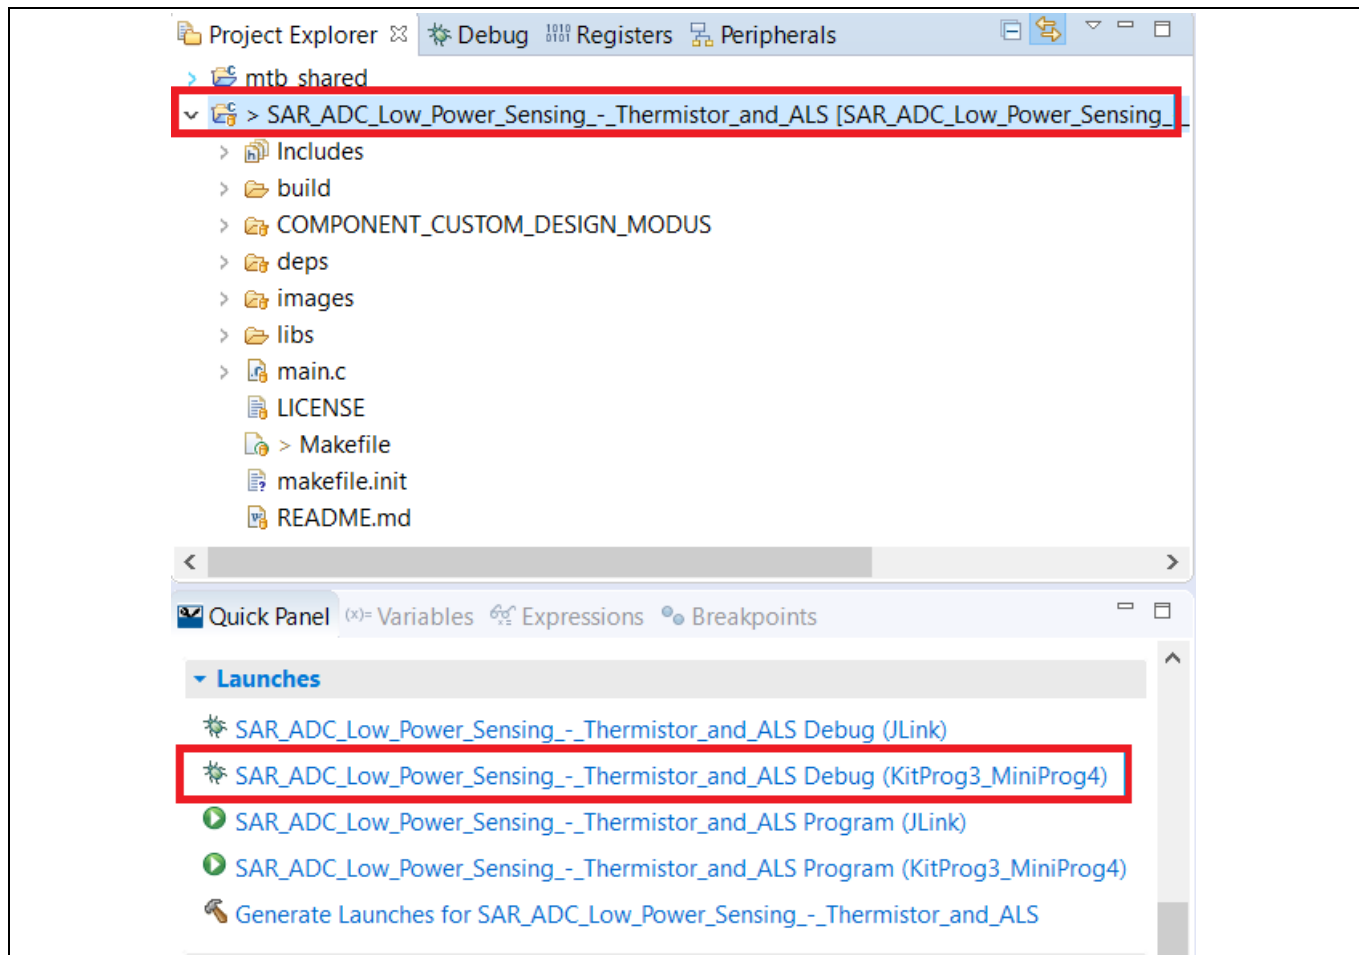

Figure 11 Debug the code example
4. ModusToolbox has an integrated debugger. To debug a PSoC 6 MCU application, in the Project Explorer, select <App_Name> project. In the Quick Panel, scroll to the Launches section and click the <App_Name> Debug (KitProg3_MiniProg4) configuration as shown in **Figure 11**. For a detailed explanation on how to debug using ModusToolbox, see ModusToolbox User Guide.